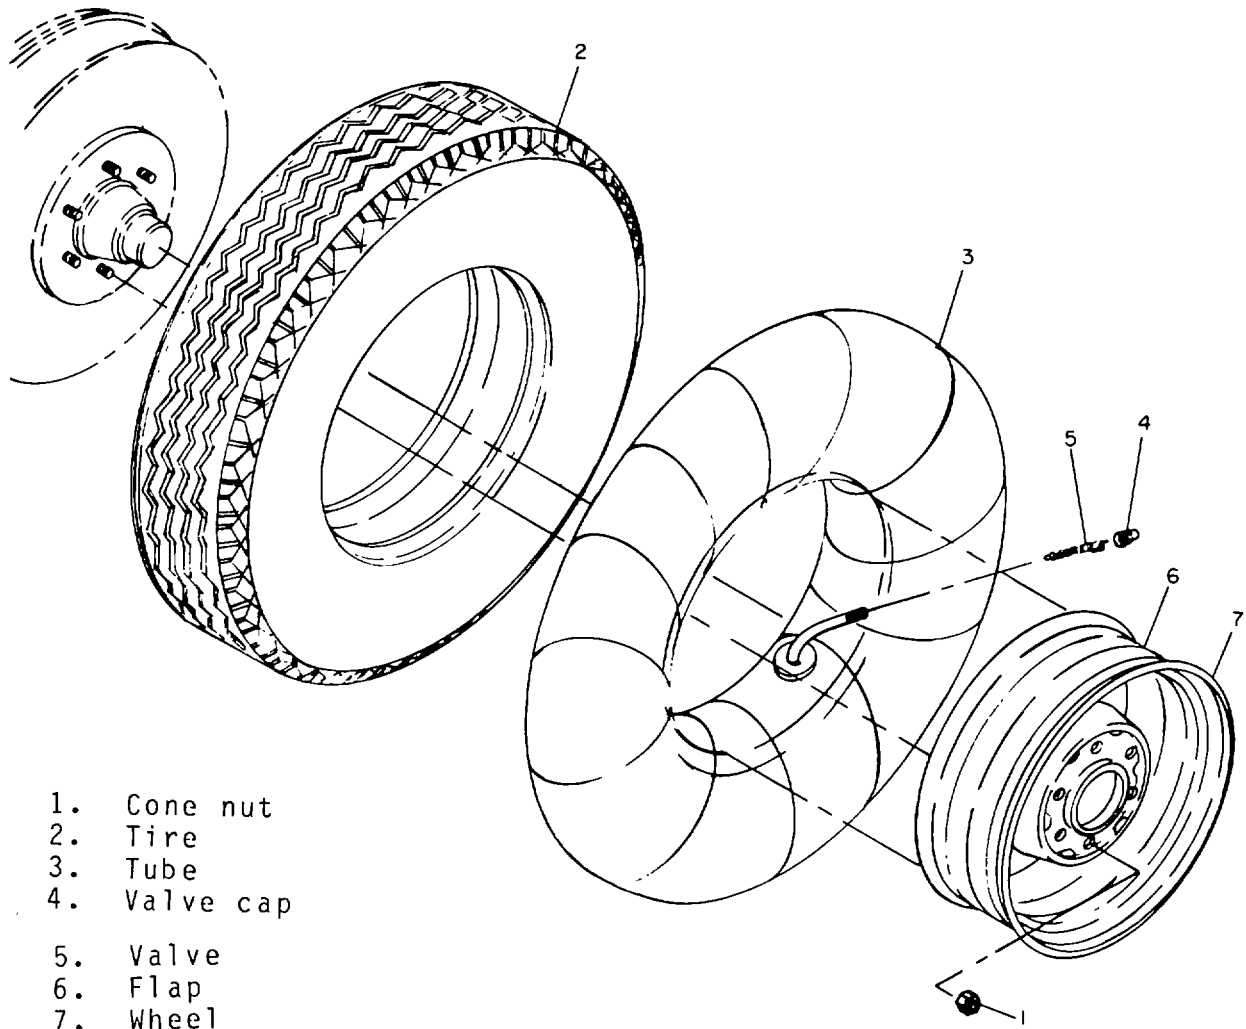

Figure 4-1. Wheel, Tire, and Tube
- (1) Loosen but do not remove cone nuts (1, fig. 4-1).
- (2) Raise wheel to be removed off ground, using a suitable jacking method.
- (3) Remove six nuts securing wheel (7) to wheel hub. Remove wheel.
- (4) If necessary, remove tire (2), tube (3), and flap (6) from wheel (7).